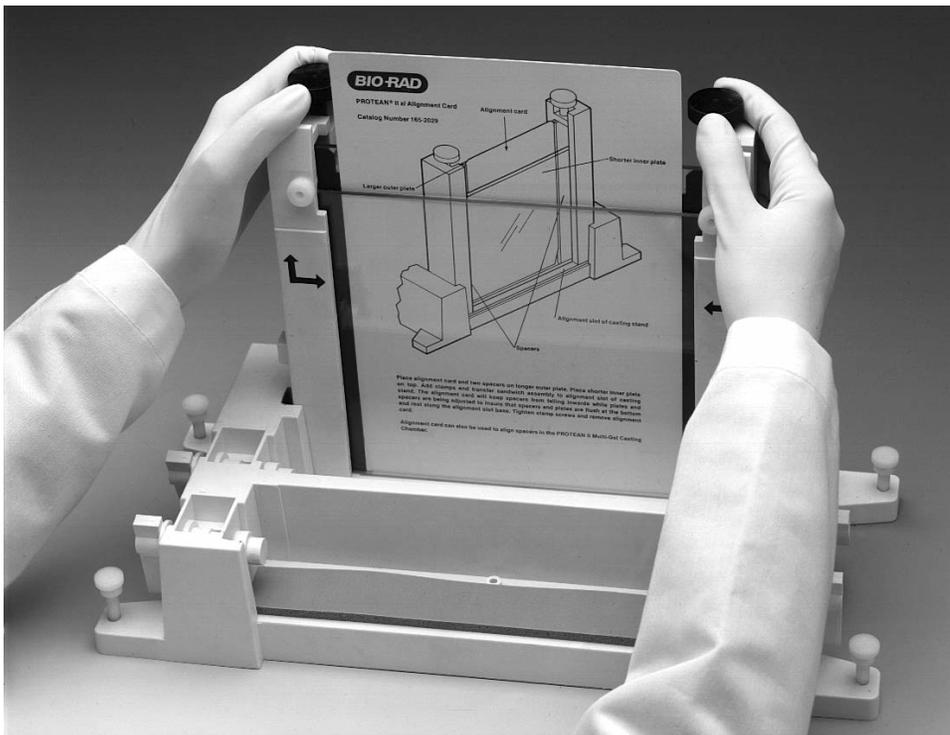

Fig. 4.7. Aligning spacers in the sandwich assembly.
5. Place the sandwich assembly in the alignment slot (the slot without cams) of the casting stand with the short glass plate forward (Figure 4.7). Loosen the sandwich clamps and insert an alignment card to keep the spacers parallel to the clamps.
6. Align the plates and spacers by simultaneously pushing inward on both clamps at the locating arrows while, at the same time, pushing down on the spacers with your thumbs. Tighten both clamps just enough to hold the sandwich in place. Pushing inward on both clamps at the locating arrows will insure that the spacers and glass plates are flush against the sides of the clamps (Figure 4.7).